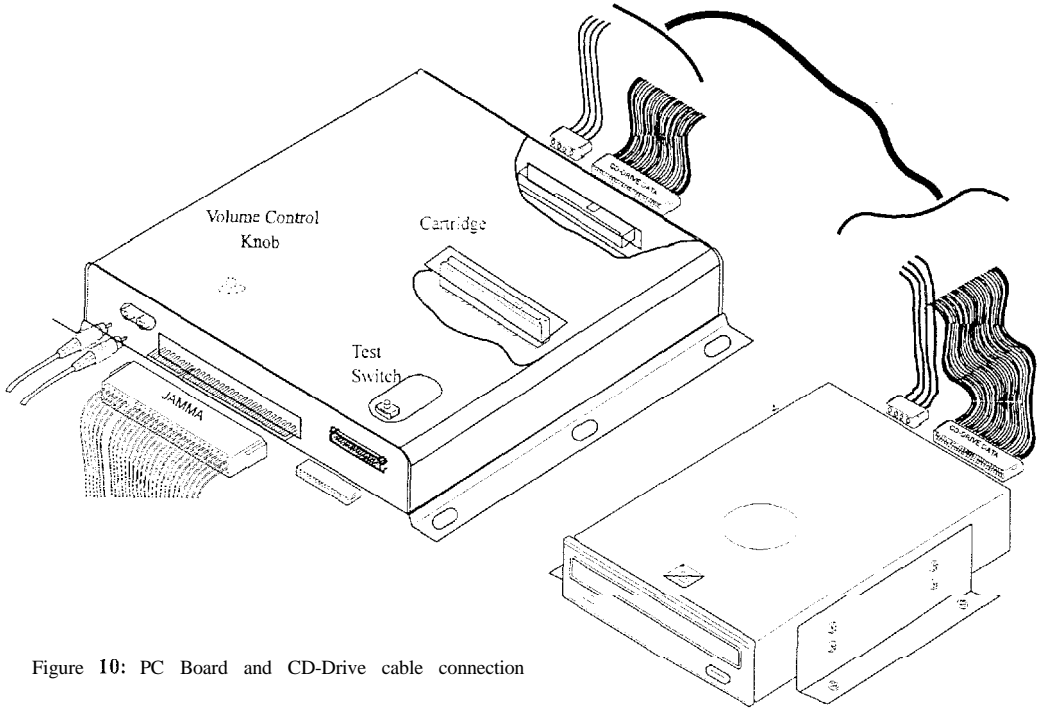

Figure 10: PC Board and CD-Drive cable connection
1. Attach Power and Data Cable to CD-Drive. Connect other end to SCSI combination connector on the main PCB (Figure 10).
2. Connect the JAMMA harness connector to the edge connector on the PC Board (Figure 10).
3. Attach the auxiliary cable connector to the PC Board. (Figure 10).
4. If you elect to use Q-Sound Audio Amplifier, connect audio cable to audio output on the PC Board. (Figure 10).
33. After the CD-ROM is installed, the game is playable. Adjust the speaker volume by turning the volume control knob clockwise to increase volume, or counterclockwise to decrease volume (see Figure 10)